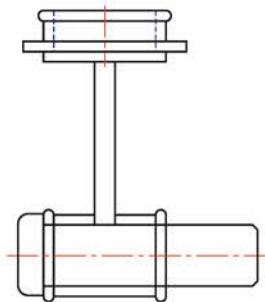

Fig. 14.17 The spindle in place in the original drawing
5. The spindle drawing appears on screen ready to be *dragged* into position. Place it in position as indicated in Fig. 14.17.